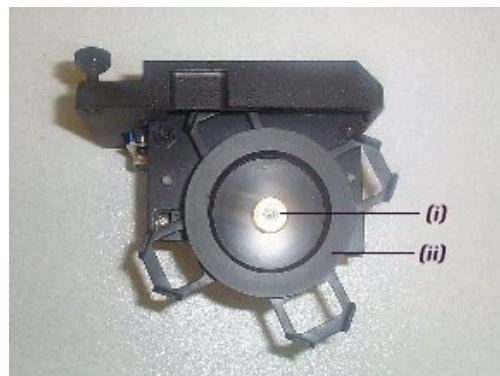

Figure 2. i) Knurled nut; (ii) Filter locking wheel
- 1 Using your fingers, carefully unscrew the knurled nut (Figure 2 (i)) in the center of the black plastic filter locking wheel (Figure 2 (ii)) and remove the locking wheel from the accessory.